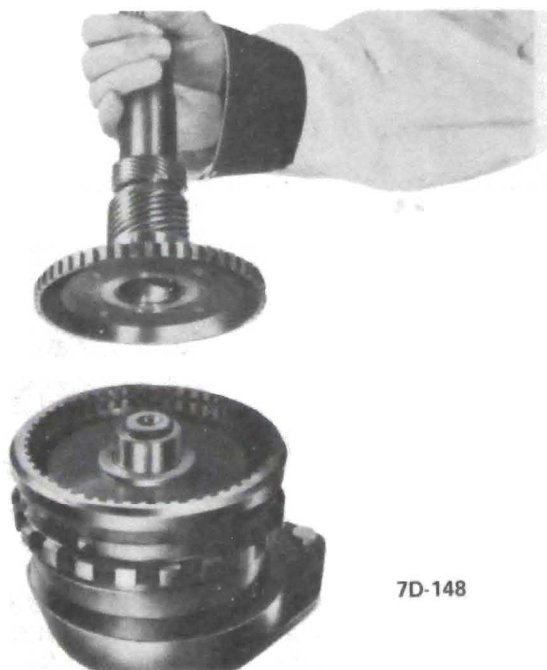

Figure 7D-87
8. Install output shaft to output carrier snap ring. See Figure 7D-88.